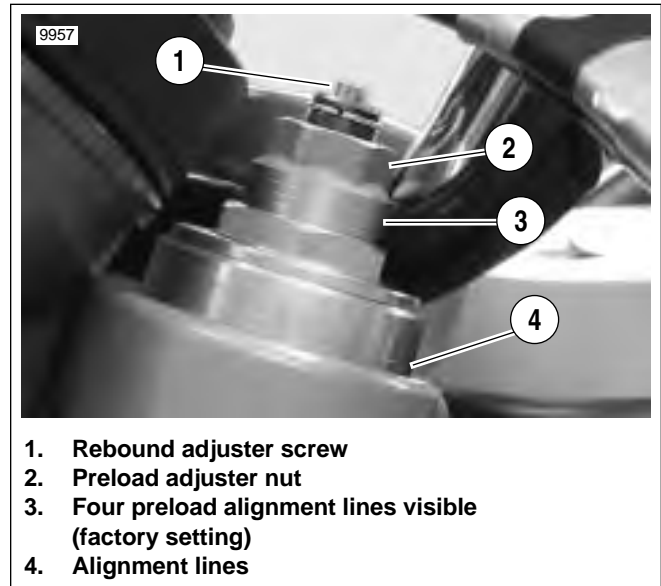

Figure 2-75. Front Fork Preload And Rebound Adjuster
4. See Figure 2-75. Position fork with alignment lines (4) visible and reflector facing to the side and tighten the lower fork clamp.
9. See Figure 2-75. Position both forks with same number alignment lines (4) visible and reflectors facing to the sides. Do not tighten.